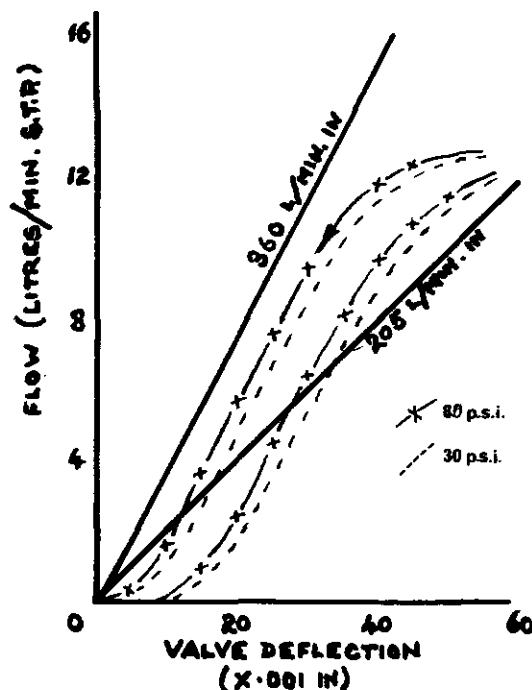

Fig. 5. Characteristic curves of Kiessling/Roehampton valve.
The rate of flow of gas through a valve is a function of valve opening and pressure differential across the ports. Variation of flow through the Kiessling/Roehampton valve was measured for various values of valve displacement and pressure differential. The curves can be seen in Fig. 5, where it will be noted that they all exhibit the
Now, when $\delta x = 0$, we see from equation (3) that $\delta q = k_2 \delta P$, which means that flow occurs even though the valve is closed. This means, explicitly, that the valve is *underlapped*. However, since a "dead-zone" exists in the measured characteristic of the Kiessling/Roehampton valve, we must conclude that it is *overlapped*. Thus the linearizing process which led to equation (3) is meaningless when applied to the Kiessling/Roehampton valve unless the flow is independent of P . That is, if the theory is to be meaningful we must take $k_2 = 0$. The curves of Fig. 5 show that this is a reasonable assumption. They also show that if we are to take $\partial q / \partial x$ constant, we must approximate the characteristic to a straight line. For a characteristic of this type, the validity of a straight line approximation is open to conjecture. We can take a line parallel to the linear portion of the curve (360 L/min.in.) or a line which passes through the whole non-linear area of the characteristic (205 L/min.in.).